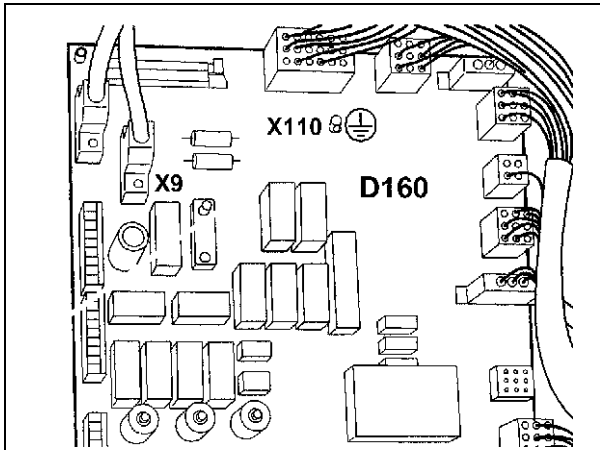
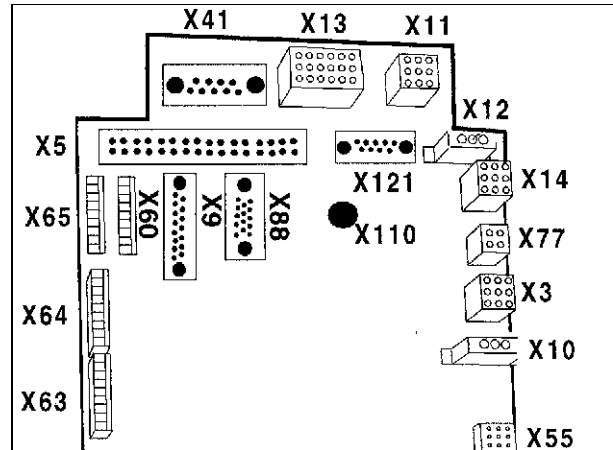

Fig. 31: D160 Part No.: 37 74 788
Fig. 32: D160 "E1" Part No.: 56 58 906
- With the D160 with Part No.: 37 74 788 (Fig. 31 / p. 46) or. D160 "E1" with Part No.: 56 58 906 (Fig. 32 / p. 46):